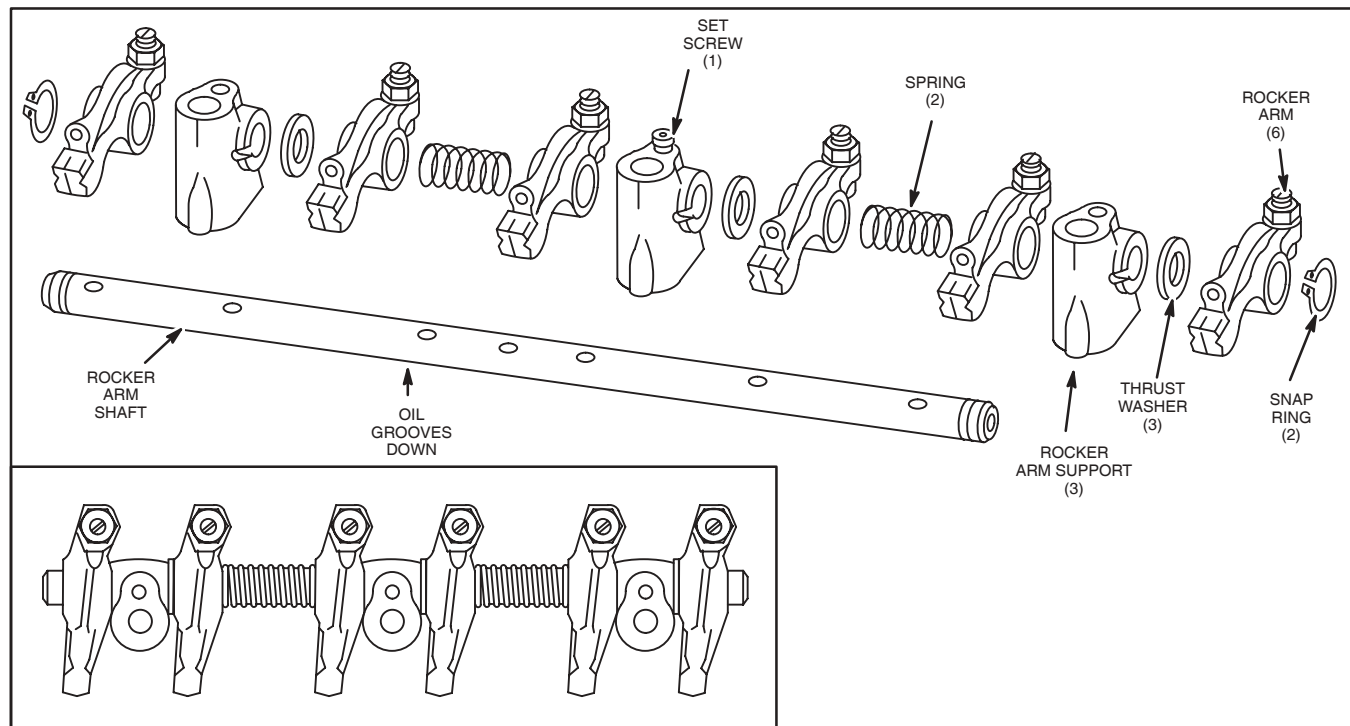

Fig. 27 – Rocker Arm Components
1. Oil all components before assembling. Small grooves in rocker shaft next to oil holes must face down. Assemble rocker arm components, noting order of assembly as shown in Fig. 27. Note position of three thrust washers. Install set screw in center rocker arm shaft support.